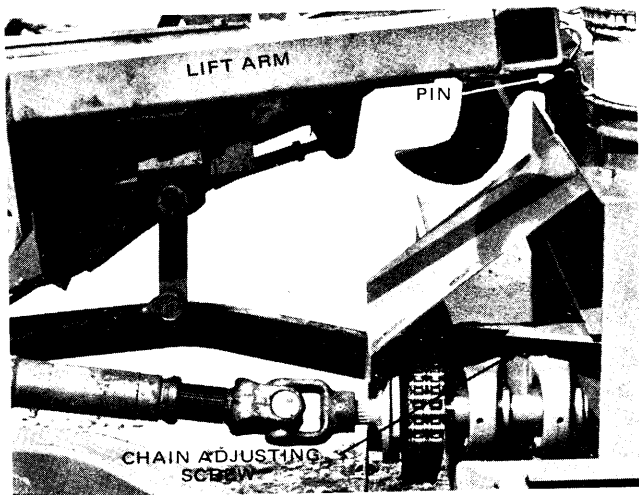

Figure 6
12. Attach the new lift arm to the bracket on the snow blower frame with the large pin and cotter pin as shown in Figure 6.
13. Check the chain tension and adjust if necessary with the jack screw shown in Figure 6. Adjust chain so there is about 1/2 inch slack.